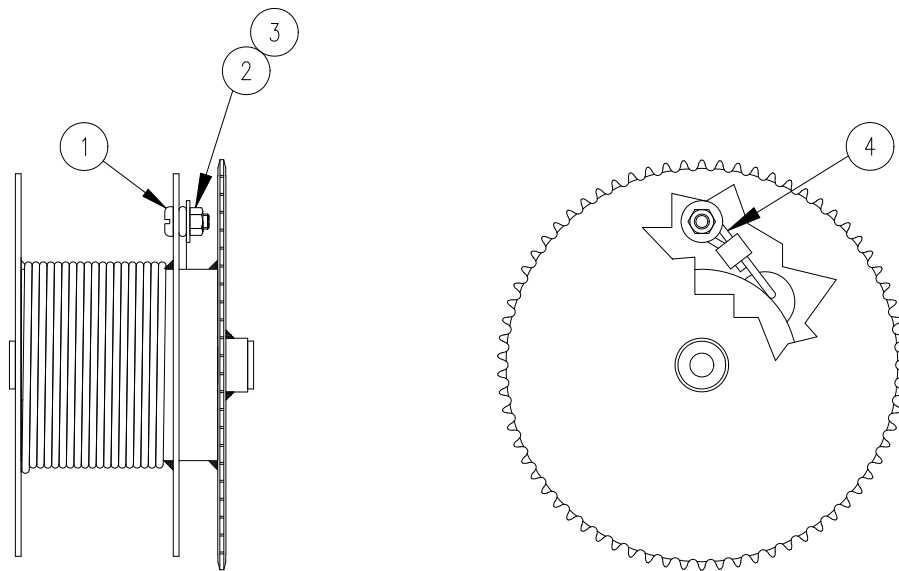

Fig. 3.1
1. Refer to figure 3.1 to attach wire rope to Handihoist drum.